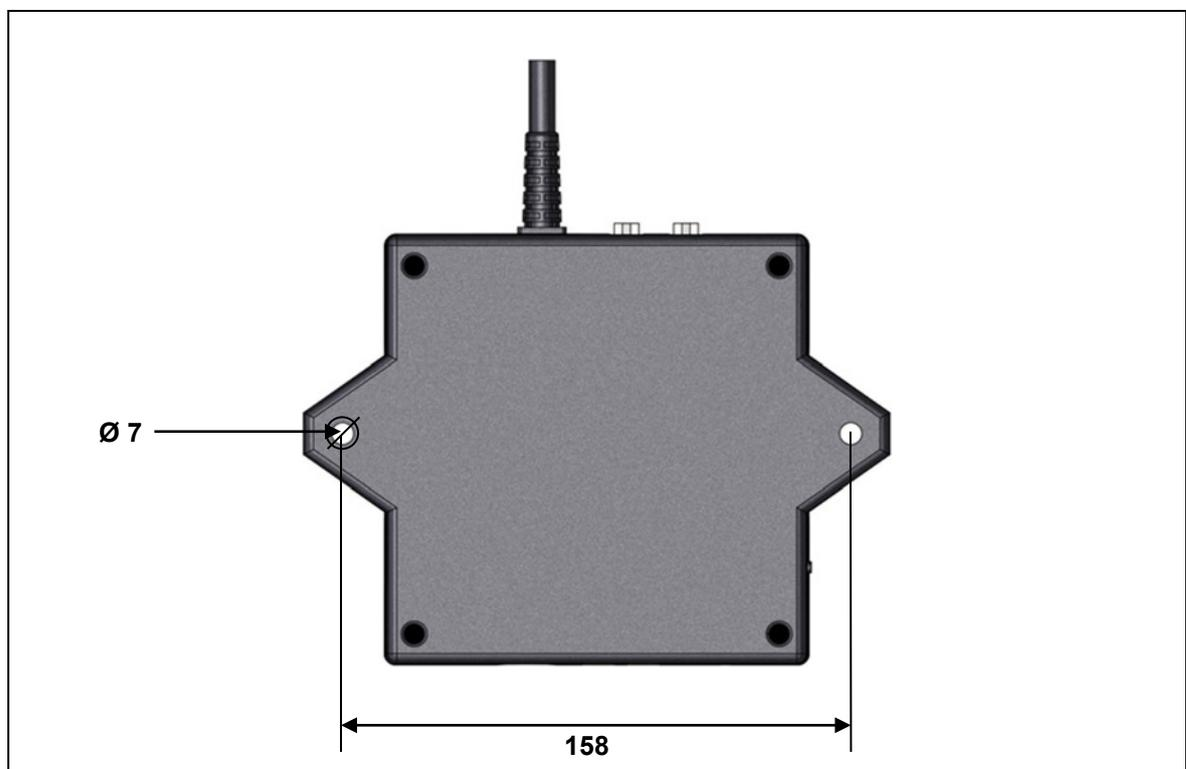
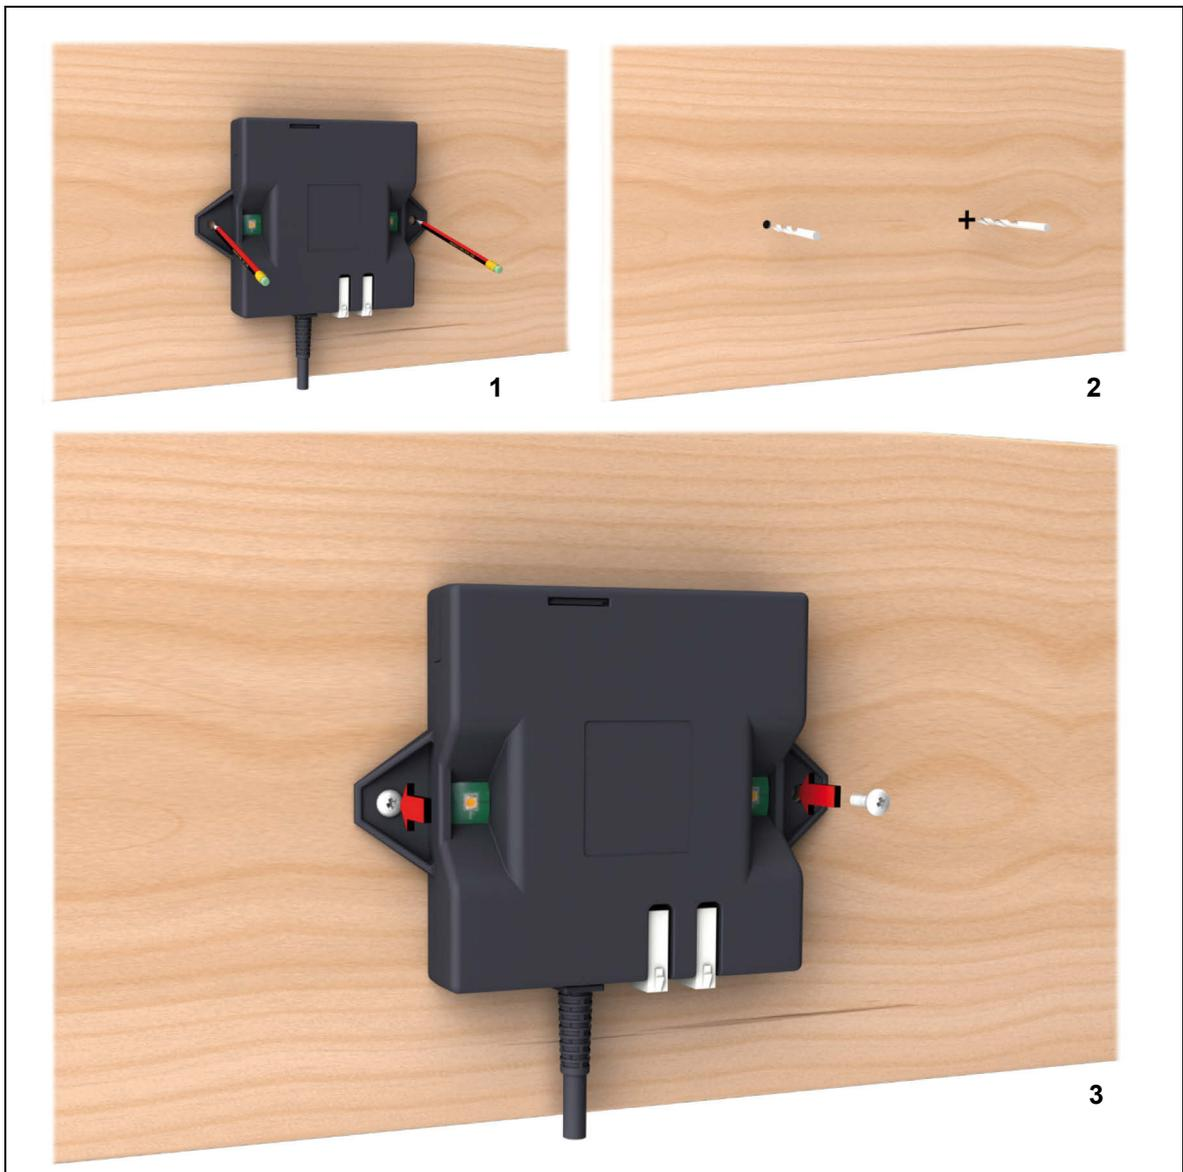

Figure 5 Drilling dimensions (example): Mounting points on the CONTROL UNIT (in mm)
Figure 6 Installing the CONTROL UNIT
- ▶ The drilling dimensions shown in Figure 5 only illustrate an example and are not necessarily authoritative for all applications.
Screw the control unit onto the end product (as shown in Figure 6). Use the mounting holes shown in Figure 5 located on the control unit. Use screws meeting the requirements of DIN 7049 with 4.8 mm diameter and of suitable length (5 mm plus the screw-in depth into the end product).